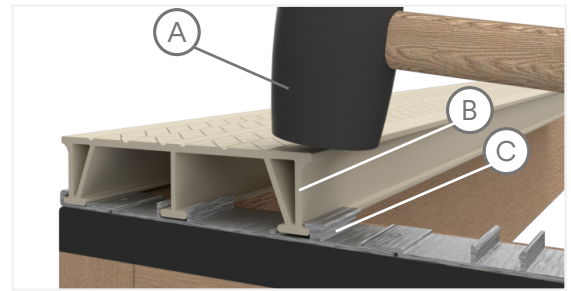

Fig. 11
- (A) Outer Leg (B) Clip
- Using a non-marring rubber mallet, strike the DockDeck board above the outer “leg.” The leg of the board will “pop” into the Clip Strip (Fig. 11).